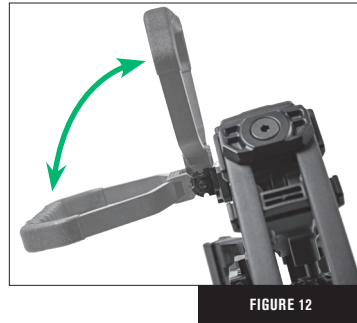

FIGURE 12
- Rotate the folding stirrup to either the down position or the full concealed position (Fig. 12).